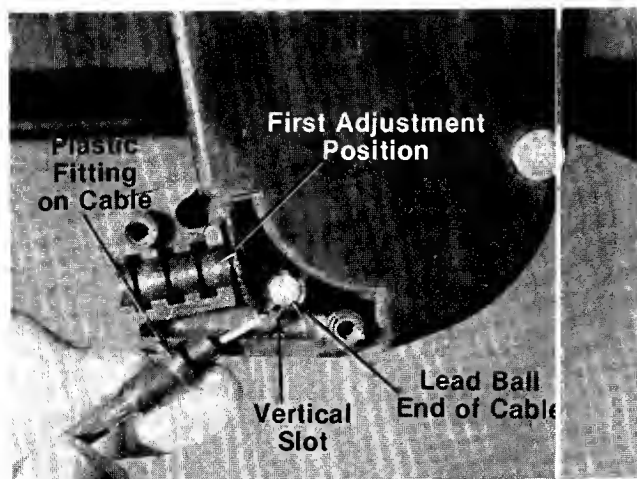

FIGURE 8.
- a. Place the lead ball end of the cable into the fitting provided in the end of the clutch control lever. Slip the braided wire into the vertical slot as shown in figure 8.
- c. Place the plastic fitting on the control cable into the first adjustment position in the clutch control housing. See figure 8.